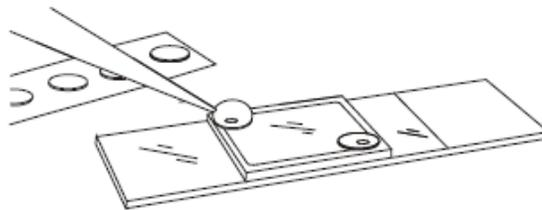

Figure 5
1. As shown in Figure 5, use a forceps to remove a seal tab from the liner strip and gently place one over each filling port.